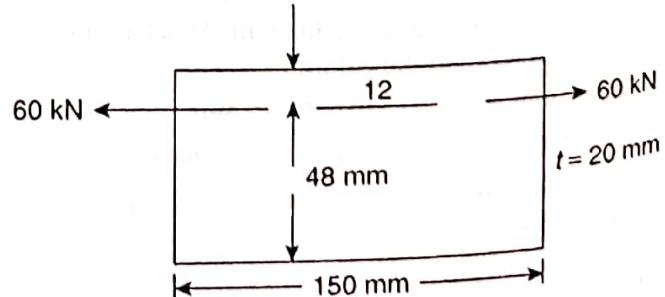

Figure 10.24 Practice Problem 3
- A flat plate of section of a thickness of 20 mm and a width of 60 mm, which is placed in a testing machine, is subjected to 60 kN of load acting along line AB as shown in Fig. 10.24, an extensometer adjusted along the line of the load recorded an extension of 0.078 mm on a gauge length of 150 mm. Determine